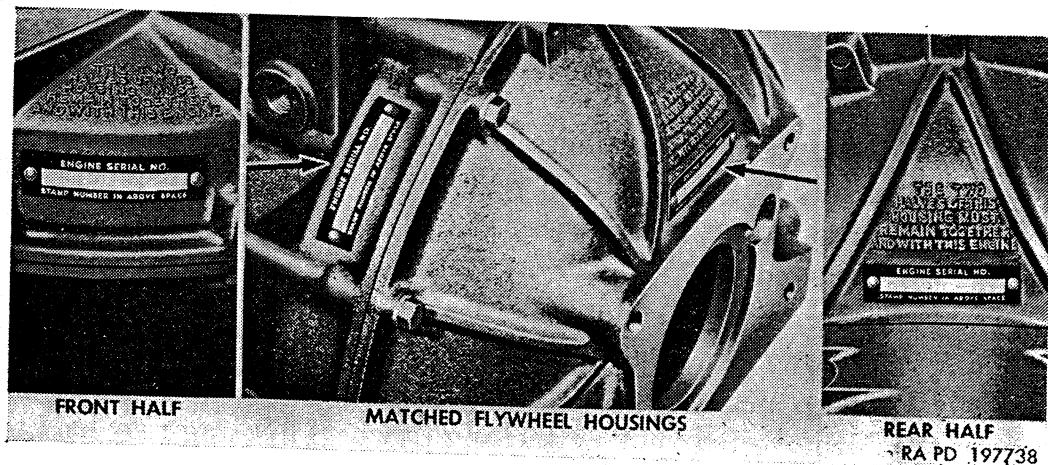

Figure 208. Location of engine serial number plates on flywheel housings.
- (4) Remove flywheel housing rear half. Flywheel housing rear half, attached to transmission case, is matched with flywheel housing front half attached to engine.
*Note.* Flywheel housing front and rear halves comprise a matched set which must remain with engine on which originally installed. A metal plate attached to each half of flywheel housing bears engine serial number (fig. 208). Operations described in (a) through (d) below must be performed if transmission is not to be reinstalled on engine from which it was removed, or if it is found necessary to remove flywheel rear housing from transmission.
*Note.* Flywheel housing front and rear halves (fig. 208) must be kept together and with engine on which they were originally installed.
(7) If new torus cover is used, a final check for runout should be made before transmission is assembled to engine.
*c. Flywheel Housing Rear Half Installation.* Flywheel housing front and rear halves comprise a matched set which must remain with engine on which they were originally installed. A metal plate attached to each half of flywheel housing bears engine serial number (fig. 208) which must agree with serial numbers on plates and stamp on engine (figs. 24 and 25).
(1) Position flywheel housing rear half to transmission assembly and attach with four  $\frac{1}{2}$ -13 x  $1\frac{1}{2}$  self-locking bolts. Tighten opposite bolts alternately to 70 to 75 pound-feet torque.
(2) Push torus cover into place on splines of transmission front drive gear, using care to avoid damage to oil seal and oil ring at front pump cover as torus cover is pushed into place.
(3) Install driving torus assembly on splines of intermediate shaft of front planet carrier.
(4) Using snap ring pliers, install new driving torus retainer in groove of shaft to retain driving torus.
(5) On some early vehicles, torus check valve and spring are held in position in driven torus by a retainer and two bolts. On these vehicles, install driven torus on splines of transmission input shaft. On late vehicles not having the retainer and two bolts to hold torus check valve and spring in place, proceed as in (a) through (d) below.